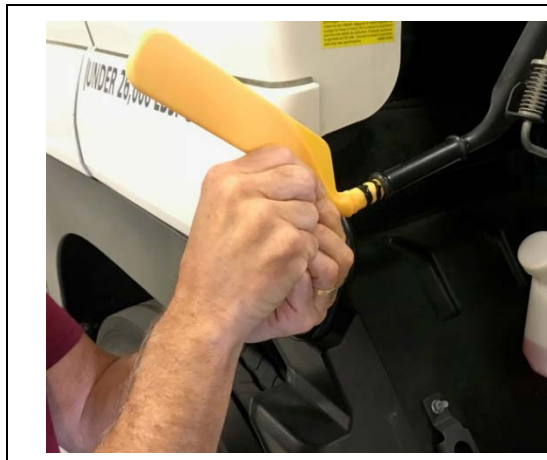
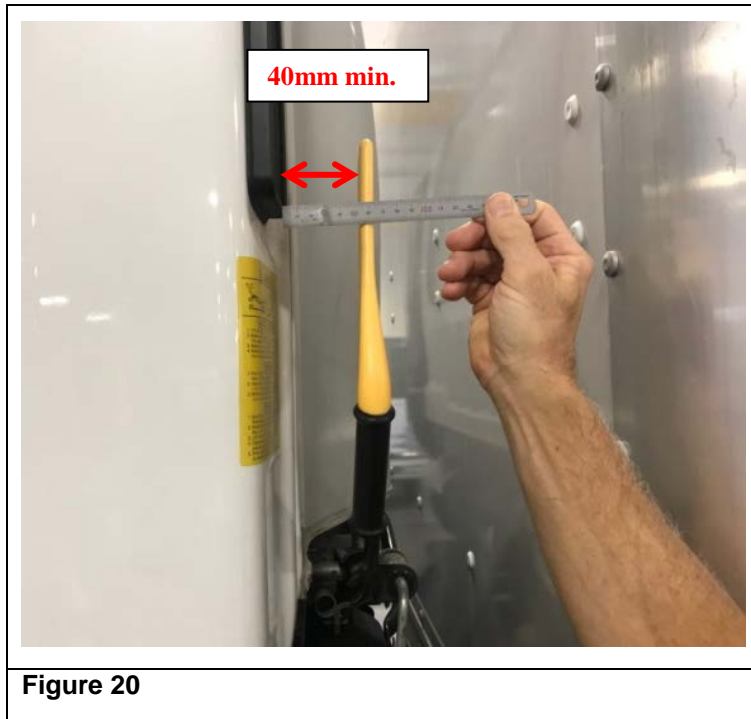

Figure 18
Figure 19
**NOTE:** Loctite 4211 adhesive should be utilized within thirty (30) days of first opening the container (the same is true for Loctite 410 adhesive). Make sure to keep the cap on the adhesive any time it is not actually being applied. Store the adhesive in a cool, dry location out of direct sunlight.
15. Insert the cab unlock marker into the tilt cab locking lever grip with the end pointing upwards and parallel with the rear of the cab (See Figure 18). Push on the marker until it locks fully into place (See Figure 19). Twist the marker as necessary to lock it in place, but ensure it is pointing upwards when locked in. Wipe off any excess adhesive.